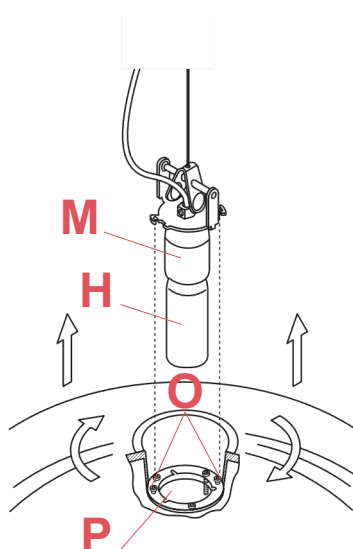

Fig.6
Insert the bulb (H) into the bulb socket (M). Insert the bulb socket and bulb into the correct seat (P) of the diffuser, fasten the bulb socket by tightening the screws (Q).(Fig.6)